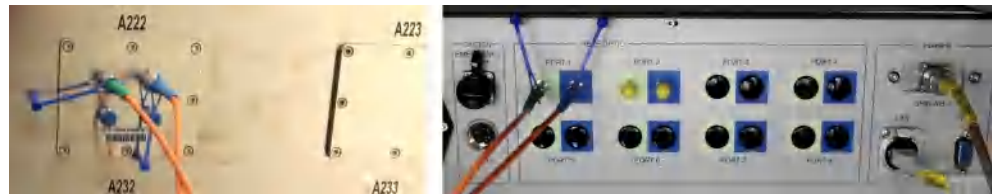

Figure 6-3: Fiber-optic (FO) control connections
The color-coded (green and blue) FO control connections in Figure 6-3 are for the transmit (TX) and receive (RX) direction, respectively.